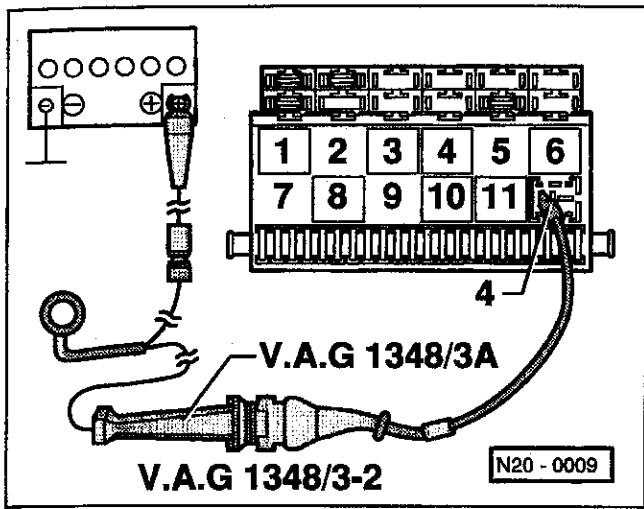

Fig. 3. Fuel pump relay removed from fuse/relay panel. Jumper battery voltage (+) to terminal 87 (4) to operate pump.
1. Remove the fuel pump relay from the fuse/relay panel. See Fig. 3.